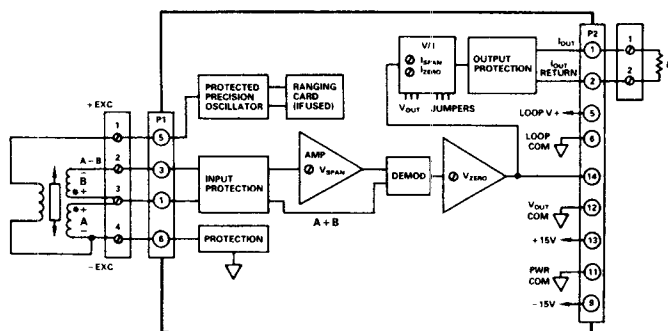

Figure 2.1.6.1 OM3-LV Functional Block Diagram
Figure 2.1.6.1 shows a block diagram for the OM3-LV. The ac excitation is provided on terminals 1 and 4. The amplitude and frequency of the ac excitation can be specified when ordered or can be configured externally with the OMX1310 custom ranging card. Input protection of up to 130V is provided for the input and excitation circuitry. The signal is amplified to give the high level voltage output and automatically synchronously demodulated to correct for any phase shift errors from the primary to the secondaries of the LVDT, eliminating the need for a phase adjustment.
The OM3-LV uses a unique approach to compensate for these errors. The two secondary windings are identified as A and B in Figure 2.1.6.1, with the normal output being A - B. The function A + B is a voltage that is in phase with the secondaries and nearly invariant with the core displacement. Since this term is much larger than the quadrature voltage, it can be used to drive the demodulator directly. The OM3-LV generates the A + B term by manipulating the A and A - B outputs. This approach automatically compensates for any phase error between the primary and secondaries of the LVDT and eliminates the need for a phase adjustment. It also rejects any residual quadrature voltages automatically. The OM3-LV is the complete solution for your LVDT needs.
1. Connect model OM3-LV as shown in Figure 2.1.6.1 with $R_L = 250\Omega$, leaving the +EXC wire disconnected.